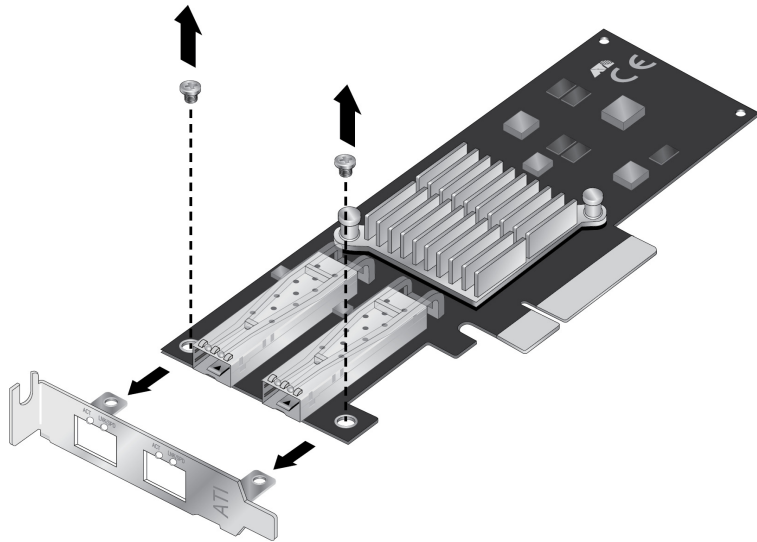

Figure 5. Removing the Low-profile Bracket
1. Remove the two screws that attach the bracket to the network interface card. See Figure 5.